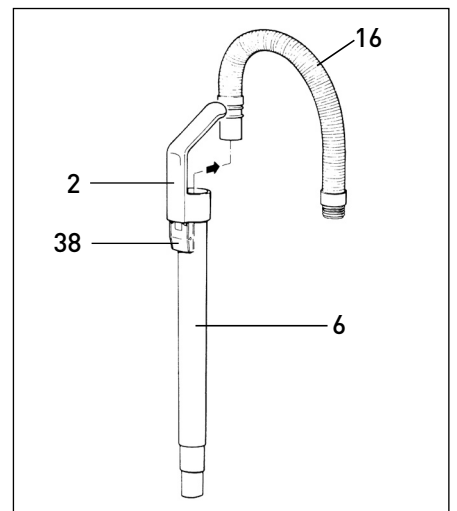

Figure 26
## Clogs in the Cleaning Wand - Figure 26
Remove the attachment hose (16) from vacuum cleaner (see figure 26) and remove the bag housing cover (24). Clean out the connecting tube and/or entrance to bag (55).